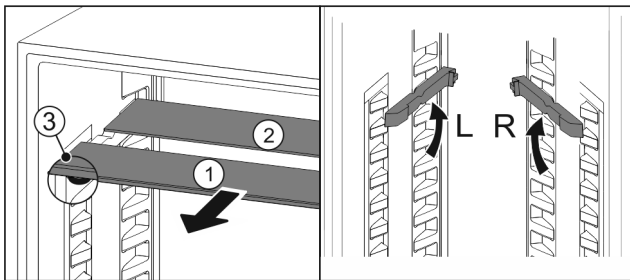

Fig. 119
- Pull the glass panels out Fig. 119 (1) from the front, one at a time.
- The glass panel Fig. 119 (1) with the trim strip is at the front.
- The stops Fig. 119 (3) point downward.